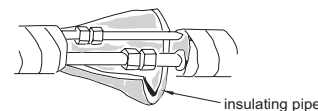

Fig.7
5. Wrap the indoor pipe and joint of connection pipe with insulating pipe, and then wrap it with tape. (As show in Fig.7)